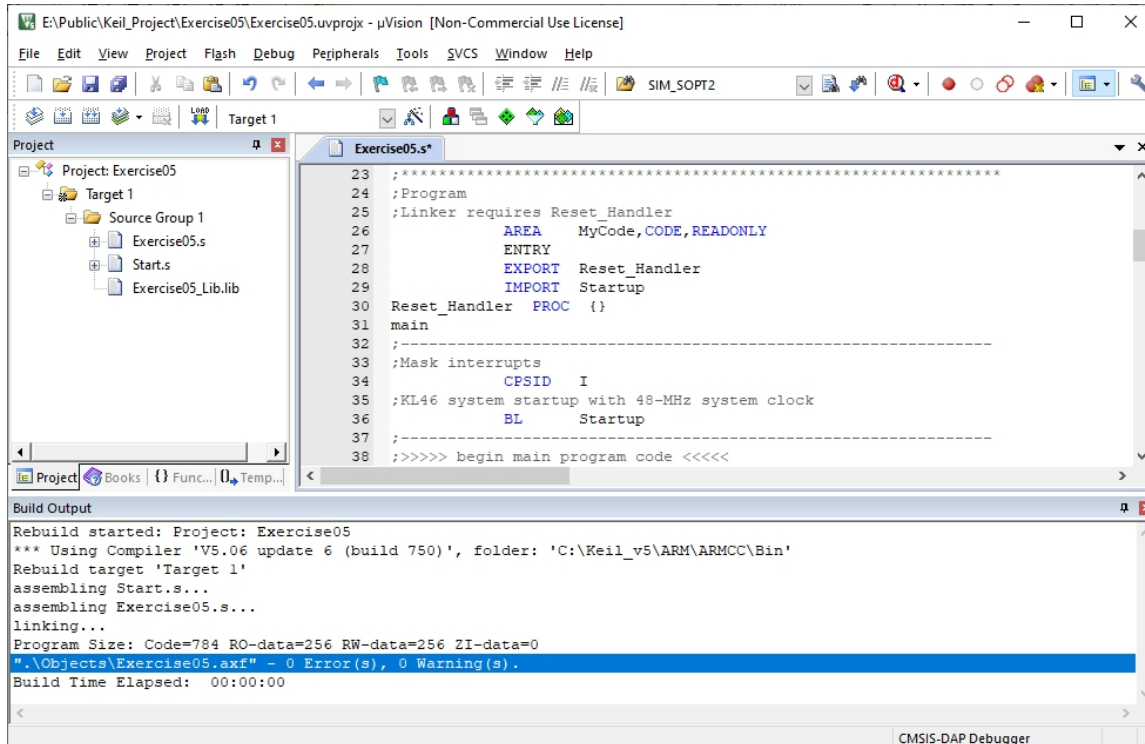

Figure 12. Project after build
- In the Build Output pane at the bottom of the window, verify that the next to last line of text shows 0 Error(s), as appears in Figure 12. If so, the build was successful; otherwise, any error(s) must be corrected before an executable file is produced.